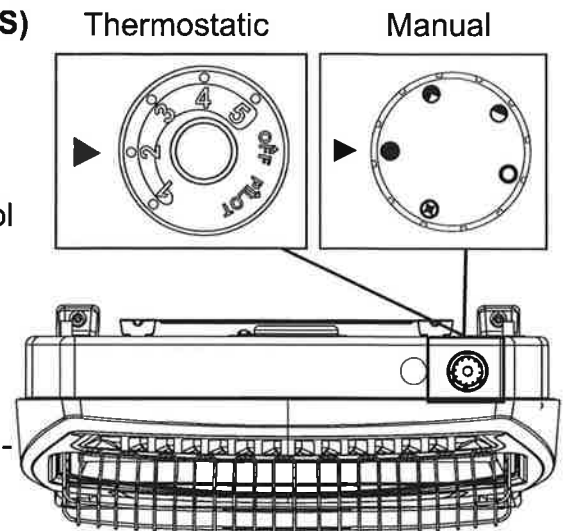

Fig. 25 - Control Knob Position
The thermostat used on this heater senses the room temperature. At times the room may exceed the set temperature. If so, the burner will shut off. The burner will cycle back on when room temperature drops below the set temperature. The control knob can be set to any comfort level between "HIGH" (5) and "LOW" (1) (See Fig. 25).
Manual valves remain burning in the desired setting until manually turned to OFF "O" (See Fig. 25).